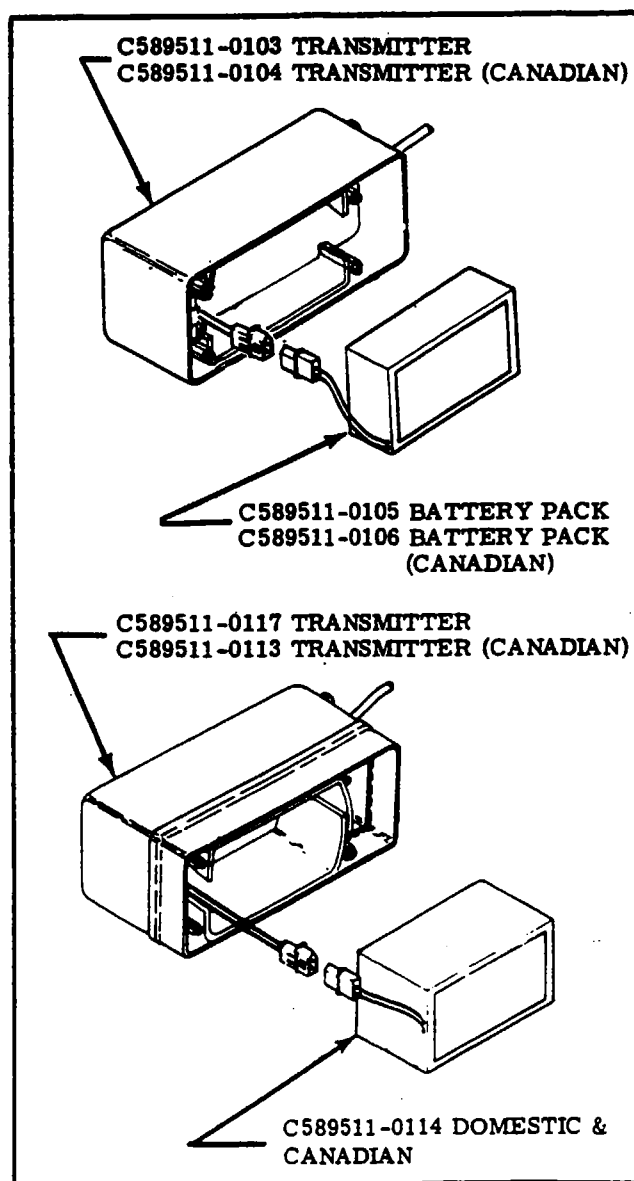

Figure 17-25. Battery Pack Installation.
17-137. REMOVAL AND INSTALLATION OF BATTERY PACK (See figure 17-25).
- Place new battery pack in the transmitter with four batteries as shown in the case in figure 17-25.
- Connect the electrical connector as shown in figure 17-25.